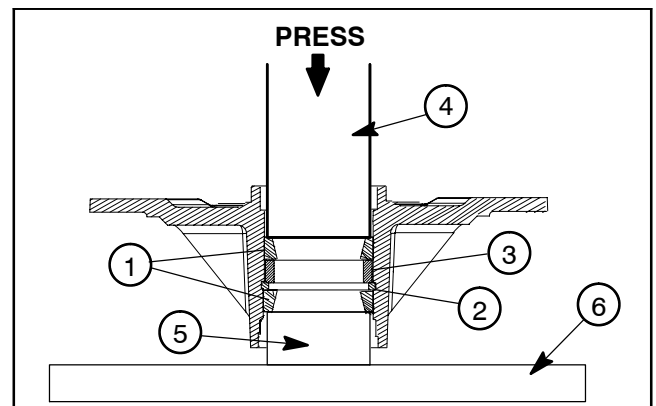

Figure 28
3. Thoroughly oil the bearing cups. Using an arbor press, push the bearing cups into the top and bottom of the spindle housing. The top bearing cup must contact the spacer previously installed, and the bottom bearing cup must contact the snap ring. Make sure that the assembly is correct by supporting the first bearing cup and pressing the second against it (Fig 28).